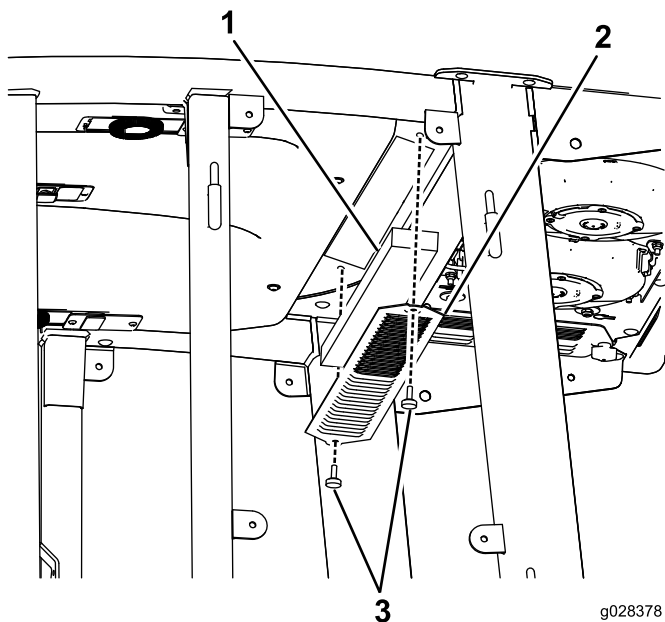

Figure 103
1. Remove the screws and grates from over both the in-cab and rear cab air filters (Figure 103).